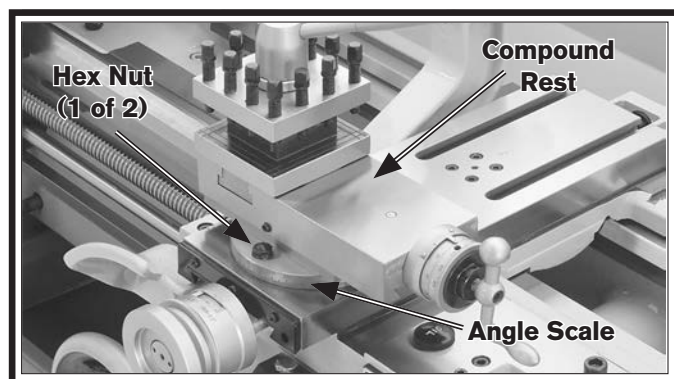

Figure 58. Compound rest.
1. Loosen the two hex nuts at the base of the compound rest (1 of 2 shown in **Figure 58**).